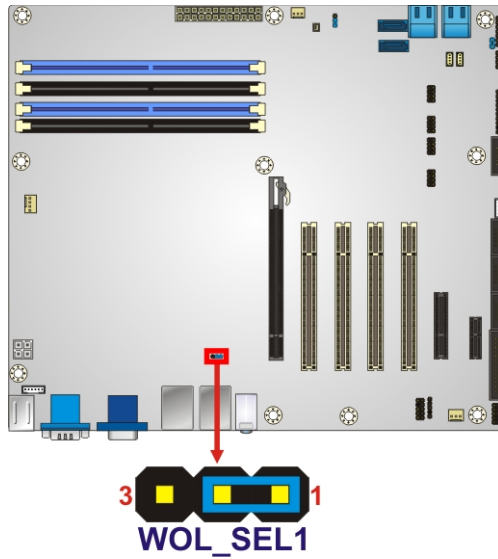

Figure 4-10: Wake-on LAN Connector Pinout Locations
- CN Location:** See **Figure 4-10**